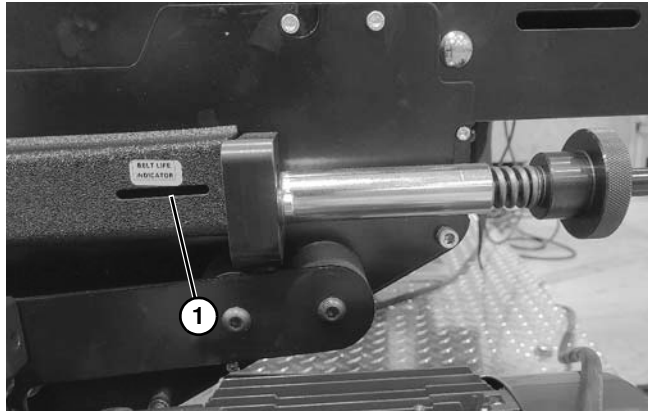

Figure 95
3. If proper belt tension cannot be achieved before the out of tension indicator (**Figure 95, item 1**) begins to turn red, the belt must be replaced.